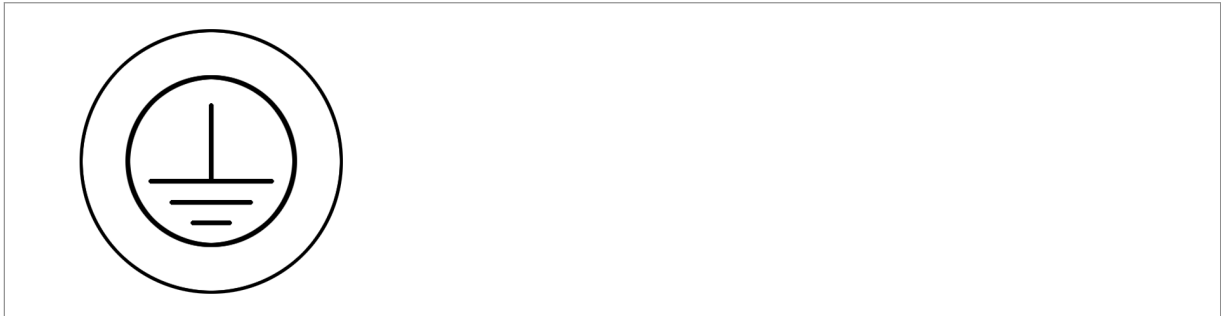

Fig. 23: Earthing symbol
- Earth the pump assembly at the connections provided for this purpose. The earthing connections are marked with the earthing symbol (Fig. 23).